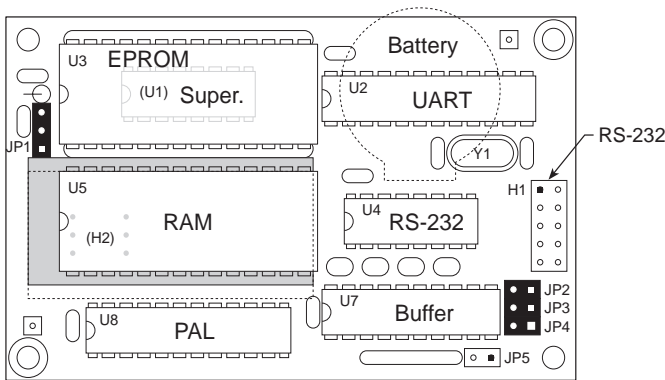

Figure 2-9. CM7100 Development Board
6. Check the jumpers on the Development Board. Figure 2-9 shows the locations of the relevant headers.
5. Check the jumpers on the Development Board. Figure 2-9 shows the locations of the relevant headers.